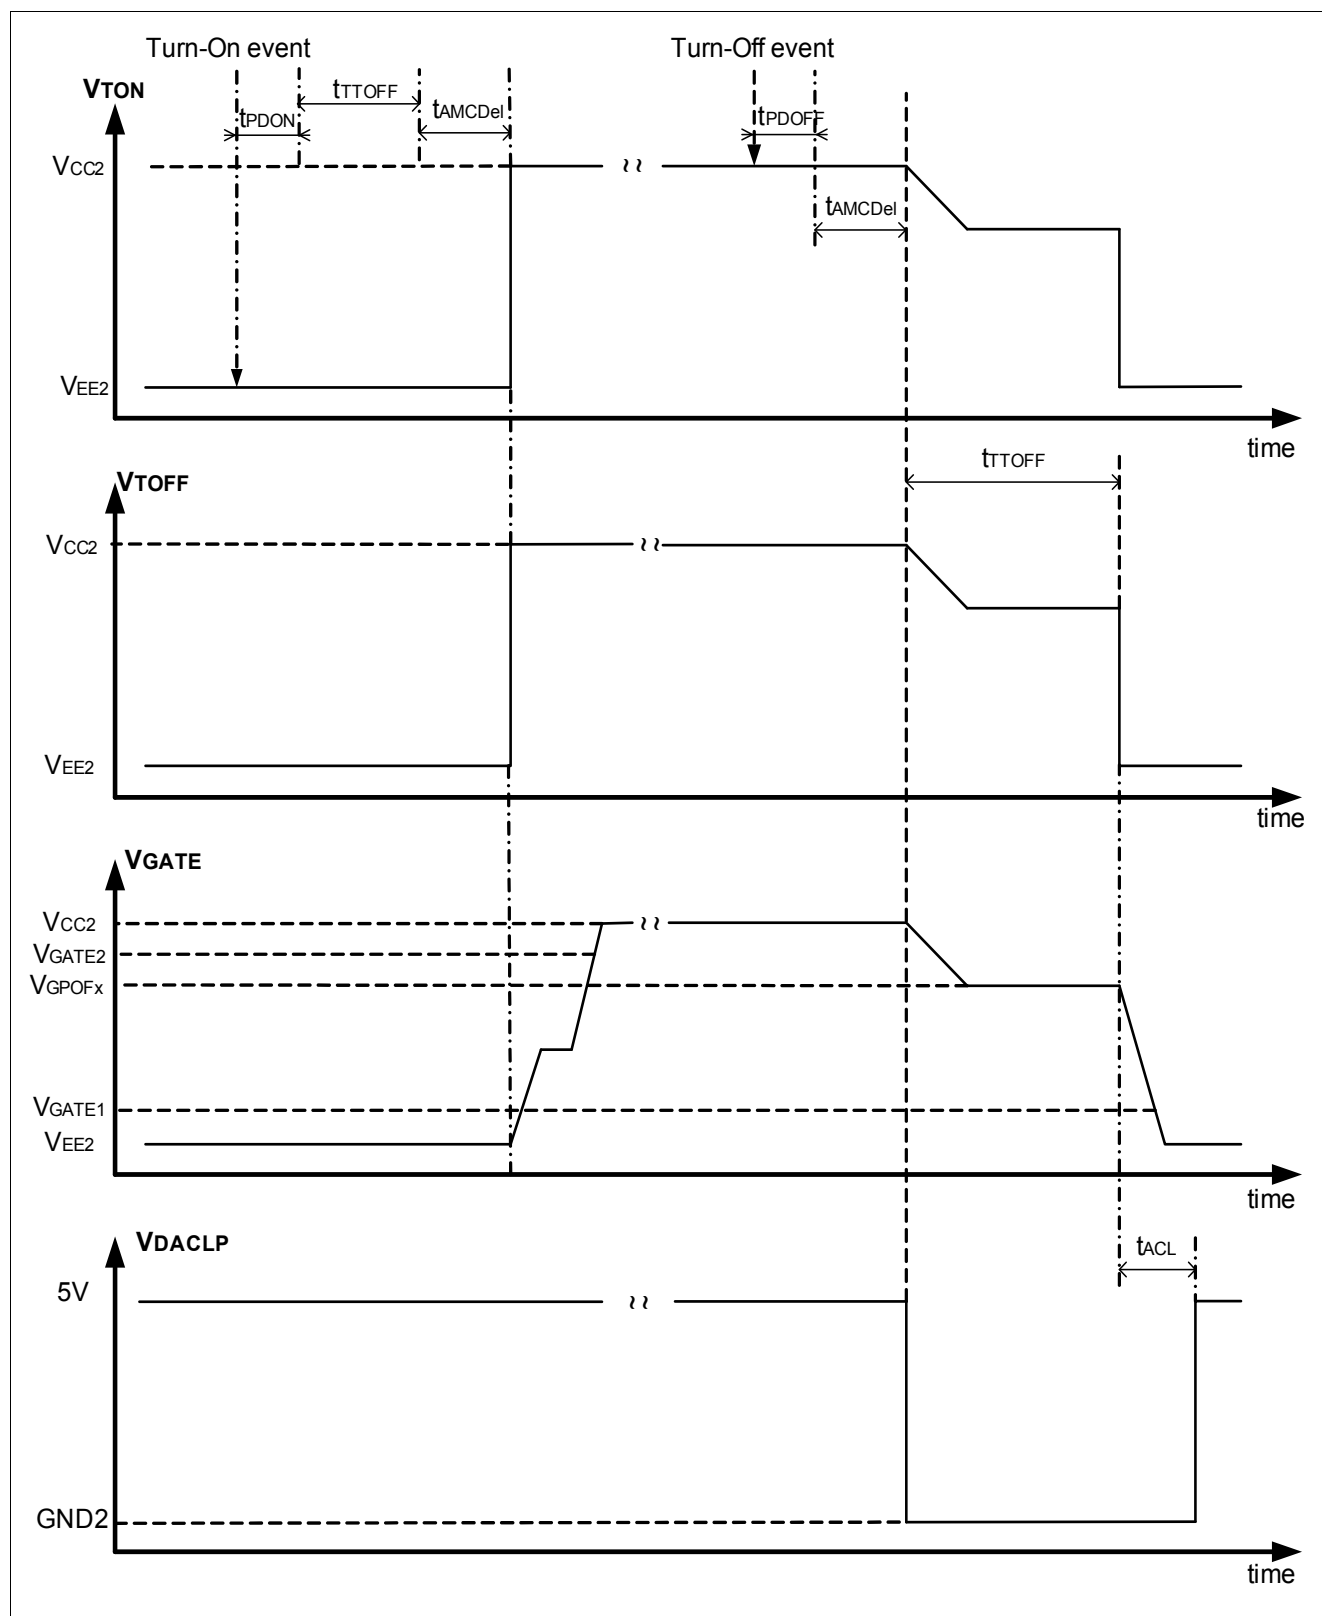

Figure 15 Idealized Switching Sequence (Regular Turn-Off)
**Figure 15** shows an idealized switching sequence. When a valid turn-on command is detected, a certain propagation time  $t_{PDON}$  is needed by the logic to transfer the PWM command to the secondary side. At this point the TTOFF delay time  $t_{TTOFF}$  defined by bit field **SRTTOF.RTVAL** is added before the turn-on command is executed. Signal **TON** is then activated, while signal **TOFF** is deactivated.